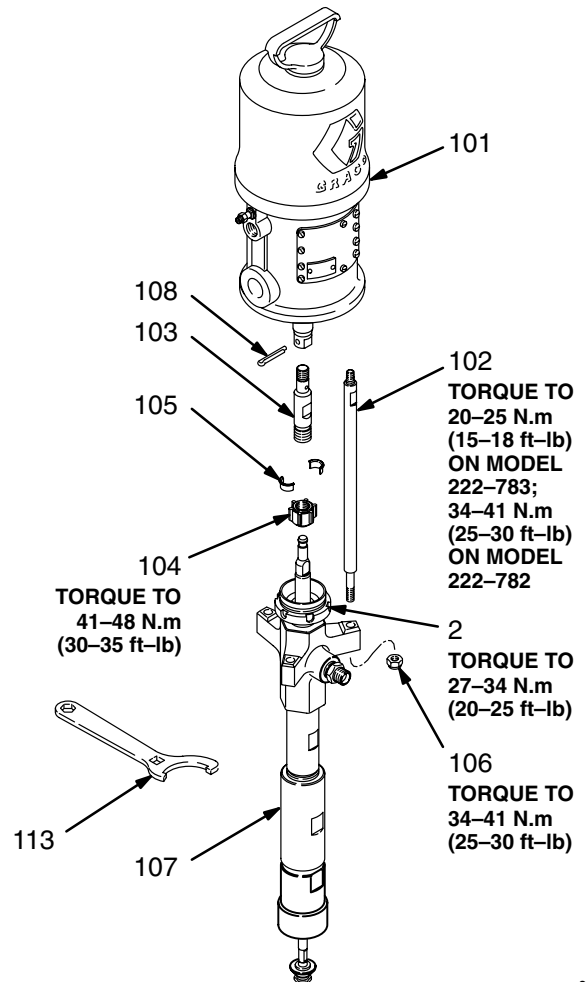

Fig 3
2. Disconnect the air hose. Hold the fluid outlet fitting (7) with an adjustable wrench to keep it from being loosened while you disconnect the fluid hose. Remove the pump from its mounting. Note the relative position of the pump's fluid outlet to the air motor's air inlet.
3. Using an adjustable wrench, unscrew the coupling nut (104) from the connecting rod (103). Remove the coupling collars (105). Take care not to lose or drop them. See Fig 3.
4. Hold the tie rod flats with an 11 mm wrench to keep them from turning. Use the wrench (113) provided with the pump (or a 17 mm box or socket wrench) to unscrew the tie rod locknuts (106) from the tie rods (102). Carefully pull the displacement pump (107) off the air motor (101).
Displacement Pump. Position the displacement pump (107) on the tie rods (102). See Fig 3.